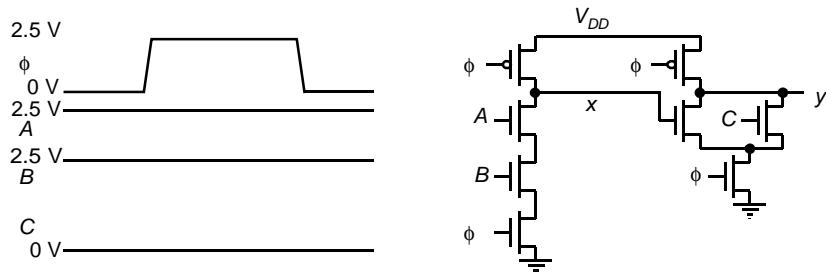

Figure 6.14 Cascaded dynamic gates.
20. [E, None, 4.3] Consider the circuit of Figure 6.14.